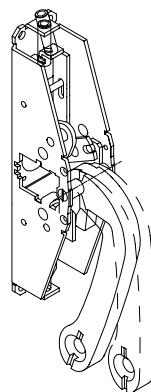

FIG. 8
- 6) Mount the ends of the rods in the main casing keeping the stirrup bracket pressed down (Fig. 8).